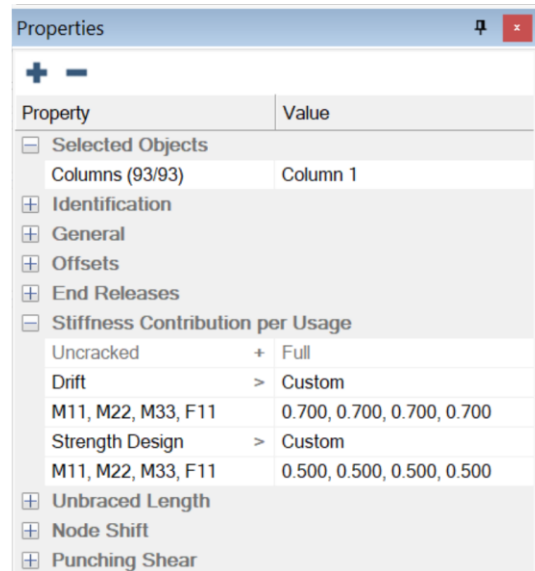

FIGURE 12-5
- Change the all the stiffness modifier values to 0.7 for *Drift* and 0.5 for *Strength*, as shown in **FIGURE 12-5**.